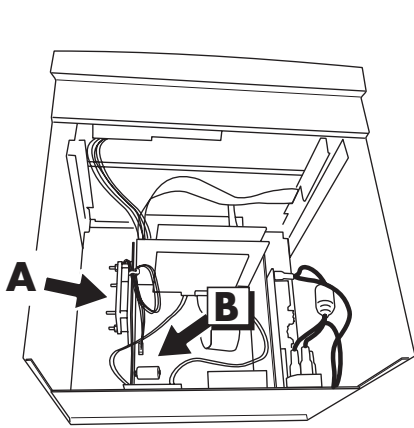

Figure 11.1c Fan and battery locations
1. Once the cover is removed, the exhausted battery (located as shown in figures 11.1c and 11.1e) can be prized out of its holder, and the replacement fitted.